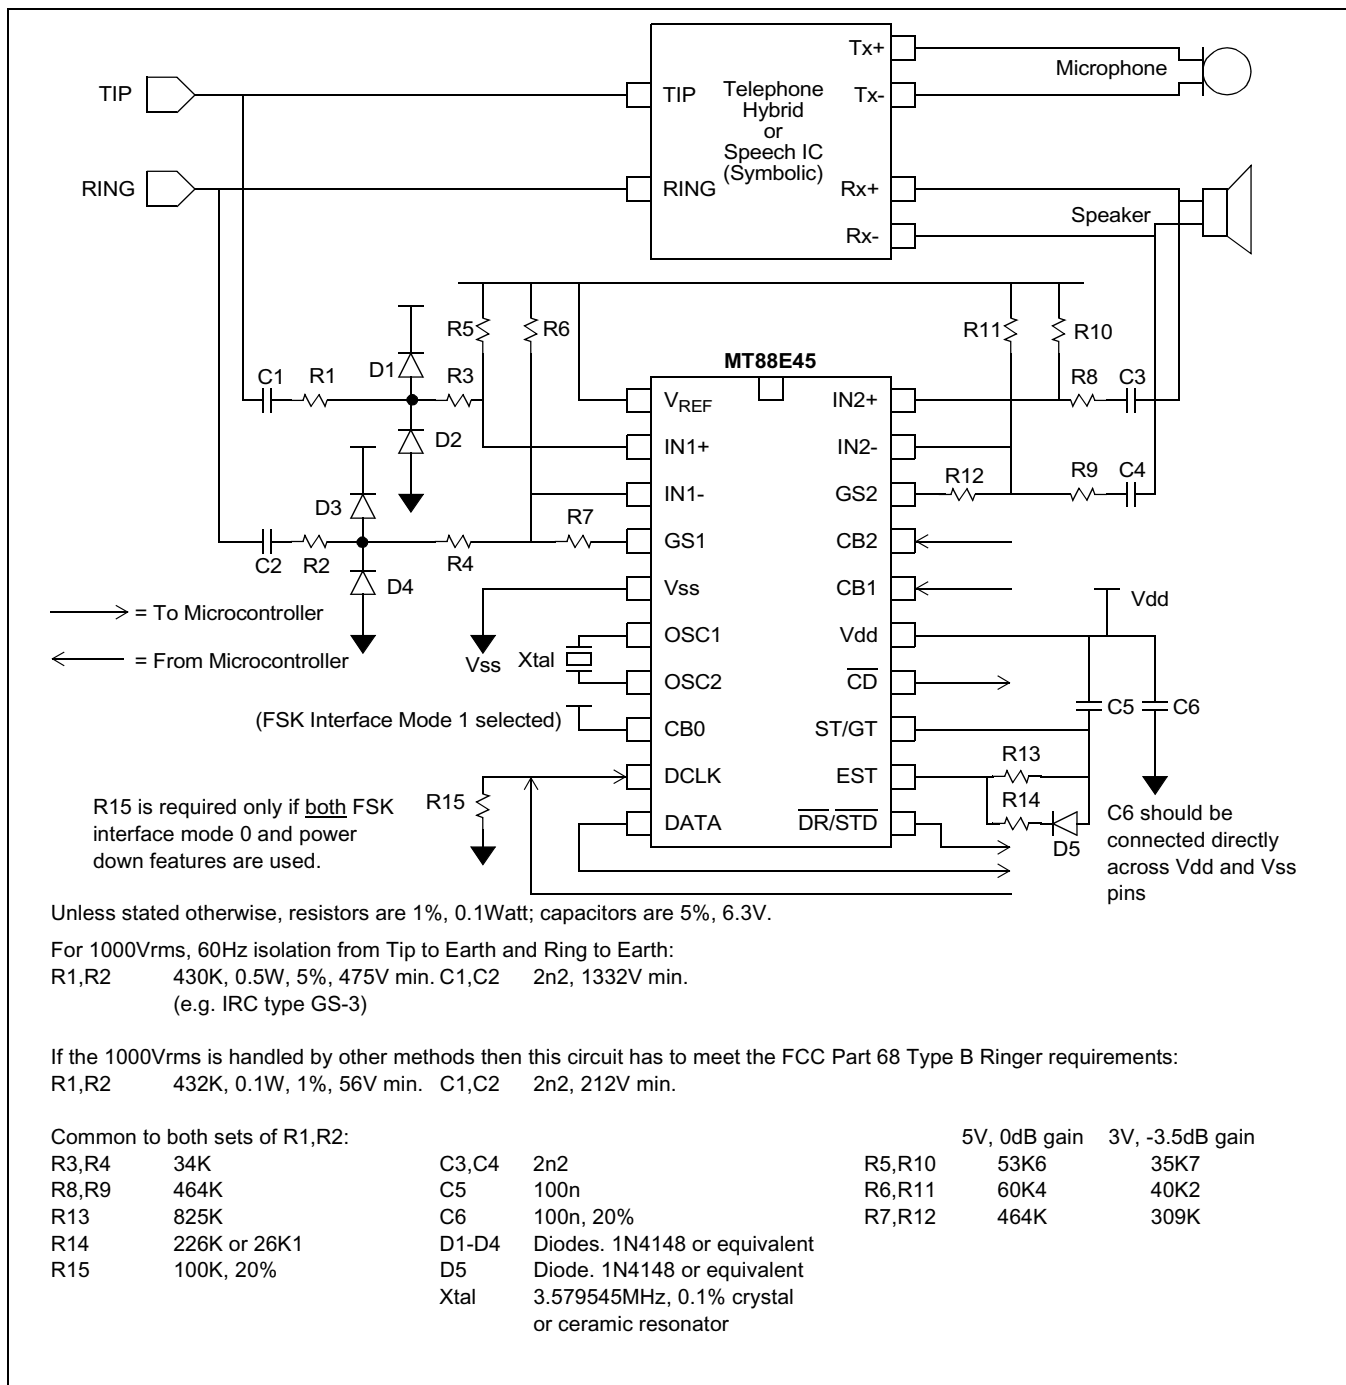

Figure 7 - Application Circuit: Bellcore MEI Compatible Type 2 Telephone
In power down mode both input op-amps, V_{REF} and the oscillator are non functional. DCLK becomes an input because to select the power down state CB0 is 1 which will select FSK interface mode 1. If the application uses FSK interface mode 0 and the MT88E45 needs to be powered down then a pull down resistor should be added at the DCLK pin to define its state during power down (R15 in Figure 7). When the MT88E45 is powered down DATA, $\overline{DR/STD}$, CD are high; EST and ST/GT are low.
- For the GS1 op-amp, start with the 0dB gain setting resistor values of $R_{5_{0dB}}$, $R_{6_{0dB}}$ and $R_{7_{0dB}}$. In Figure 7 these values are 53K7, 60K4 and 464K respectively. Keep C1,C2,R1,R2,R3,R4 as in Figure 7 to maintain the highpass corner frequency constant for all gain settings.